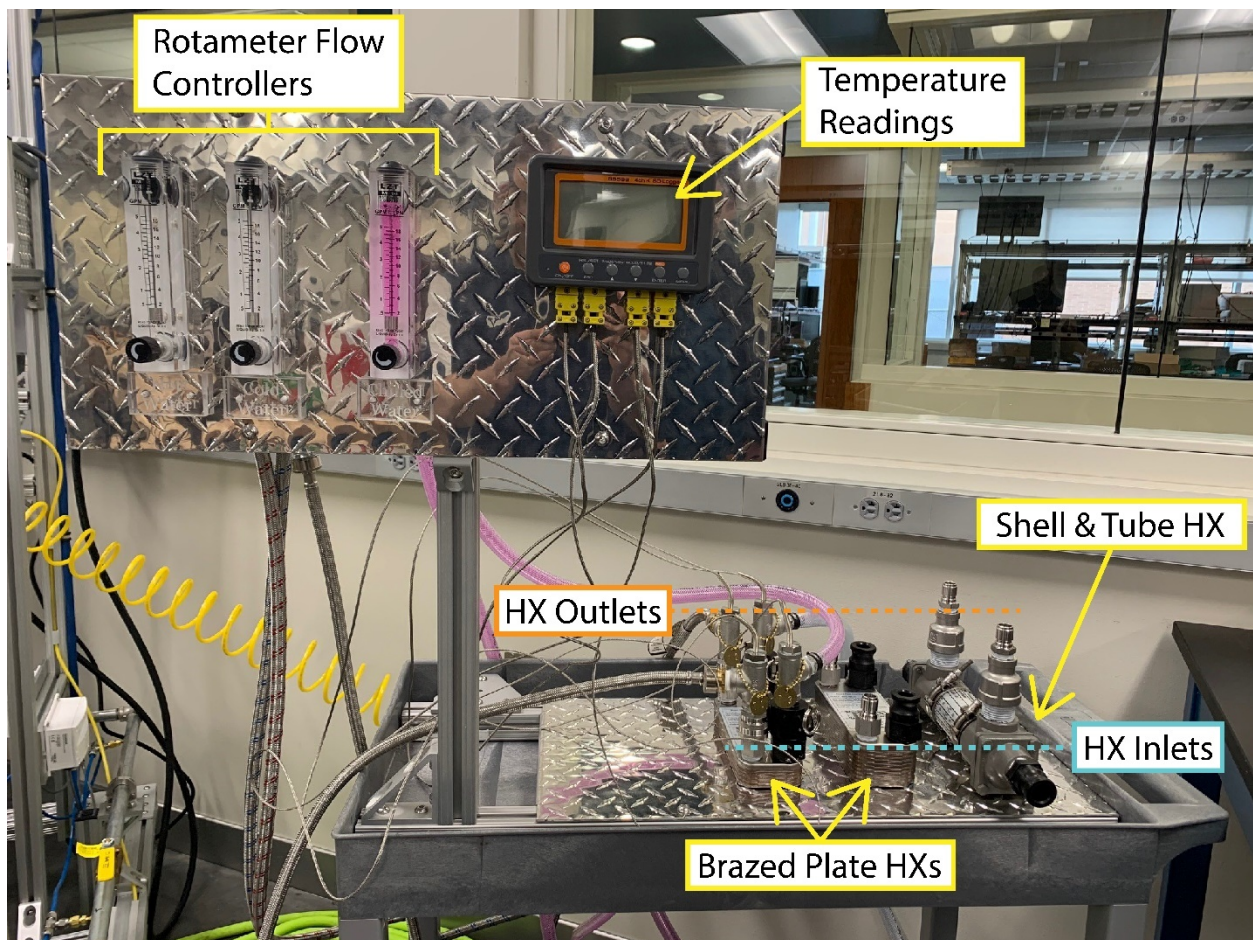
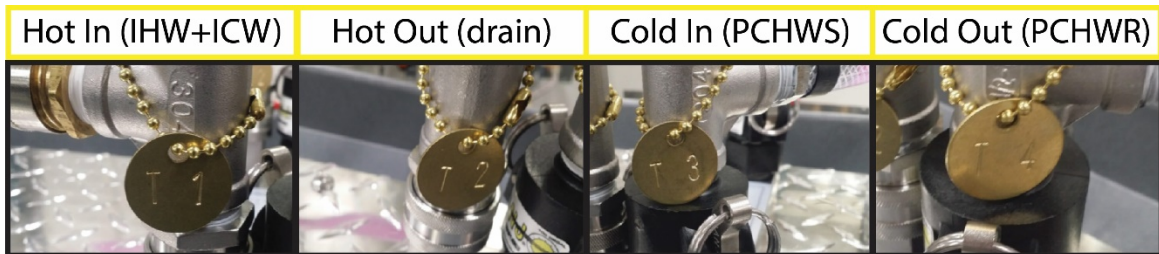

Figure 1 Picture of experimental apparatus.
Figure 3 Temperature/Stream tags on heat exchanger connections.
Figure 1 is a picture of the apparatus. Notice the following.
4. The inlets (*hot* and *cold*) to each heat exchanger are on the side closest to the rotameters (in the foreground of Figure 1).
5. The outlets (*hot* and *cold*) of each heat exchanger on the side farthest from the rotameter (in the background of Figure 1).
Figure 1 is a picture of the wall connections. Each connection is labeled with a brass tag as follows.
The streams connecting to the heat exchangers contain the thermocouples. For identification, these are labeled T1-T4. Figure 3 are pictures of the four tags. The title above each picture indicates the stream in the heat exchanger. The parentheses contain what the other side of the tube is connected to. The 1-4 correspond to the temperatures on the Temperature Readings display (See Figure 1.)